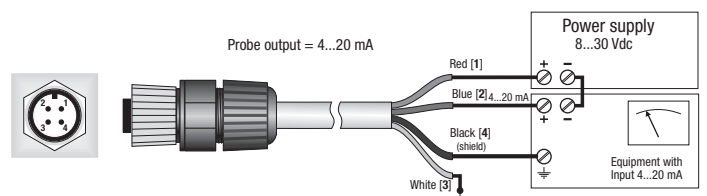

Figure 4.2: Connection diagram of LP UVI 02 AC.
- The LP UVI 02 AC, with an adequate power supply, can be connected to a multimeter or to a data logger according to the following scheme (Figure 4.2), the load resistance for the reading of the signal must be \approx 500 W: